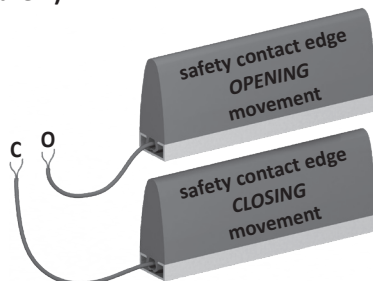

Figure 1: Connection at the coil core
7.1 Raccordement au noyau de bobine SPK 54 (figure 1)